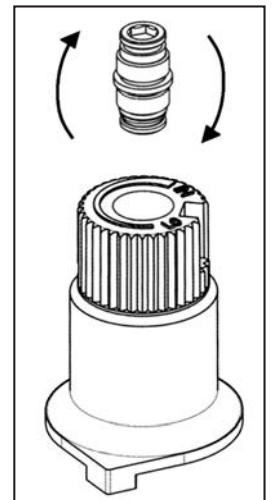

Figure 13: Flip valve screw.
- e) Flip the screw (refer to Figure 13).